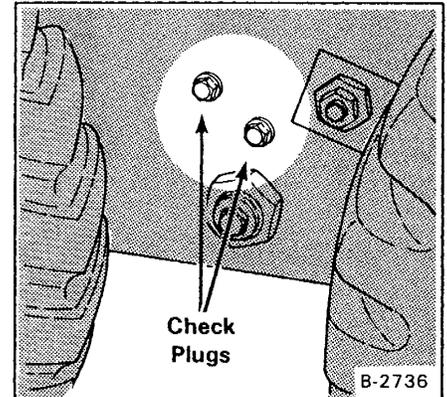
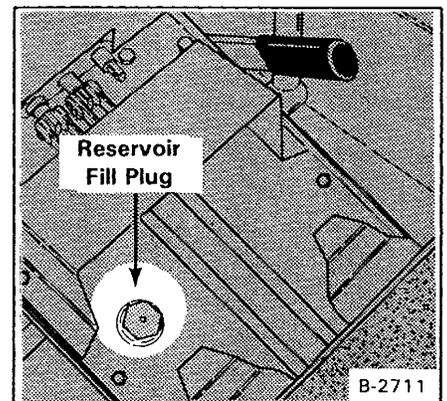

Fig. 1-29 Hydraulic Reservoir Plug
Fig. 1-30 Reservoir Fill Plug
- (1) Place the loader on a level surface.
- (2) Lower the lift arms and tilt the Bob-Tach fully back. Stop the engine.
- (3) Loosen the lower check plug on the right side of the chaincase (Fig. 1-29). If fluid flows the level is correct. If no fluid flows, tighten the check plug.
- (4) Loosen the upper check plug (Fig. 1-29). Remove the reservoir fill plug (Fig. 1-30). Add recommended fluid until it flows at the upper check plug. Tighten the check plug and replace the chaincase fill plug and tighten.
- (3) Lower the loader and fill the reservoir/chaincase to the upper check plug with fluid (Fig. 1-29).
- (3) Lower the loader and fill the reservoir to the upper check plug level with the recommended fluid (Fig. 1-29).
- (1) Place the loader on a level area (on the 310 Model, lower the lift arms and tilt the Bob-Tach fully back). Stop the engine.
- (2) Remove the lower plug on the right side of the chaincase (Fig. 1-29). If fluid flows the level is correct. If no fluid flows, tighten the check plug.
- (3) Remove the upper check plug (Fig. 1-29). Remove the chaincase fill plug (Fig. 1-30). Add recommended fluid until it flows at the upper check plug. Tighten the check plug and replace the chaincase fill plug and tighten.